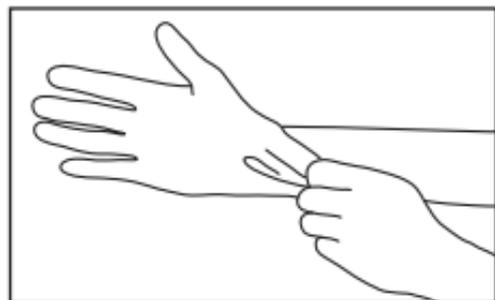

Fig. 8
- 1 Always wear protective gloves, a mask, and protective goggles for safety purposes and to minimize the risk of infection. (Fig. 8)